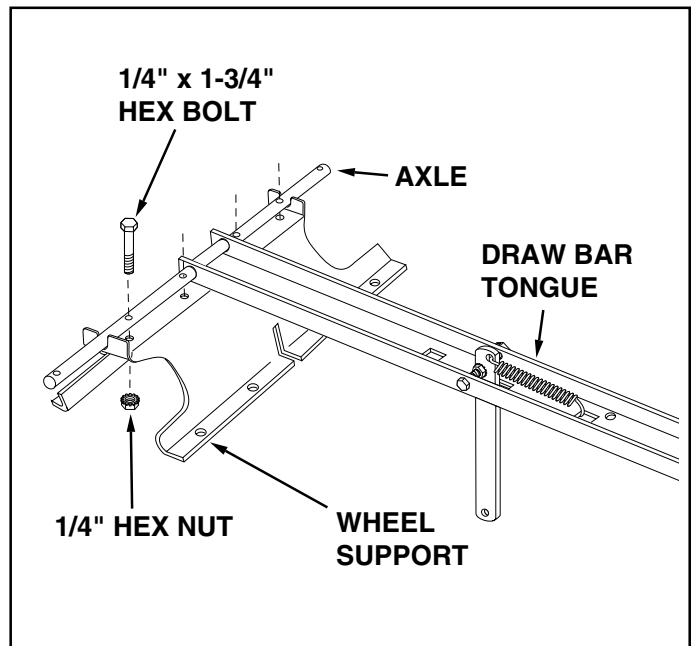

FIGURE 4
- Assemble the axle and drawbar tongue to the wheel support, with the open side of tongue facing away from the wheel support. Fasten the axle to the wheel support using four 1/4" x 1-3/4" hex bolts and 1/4" hex nuts. **Tighten.** See figure 4.